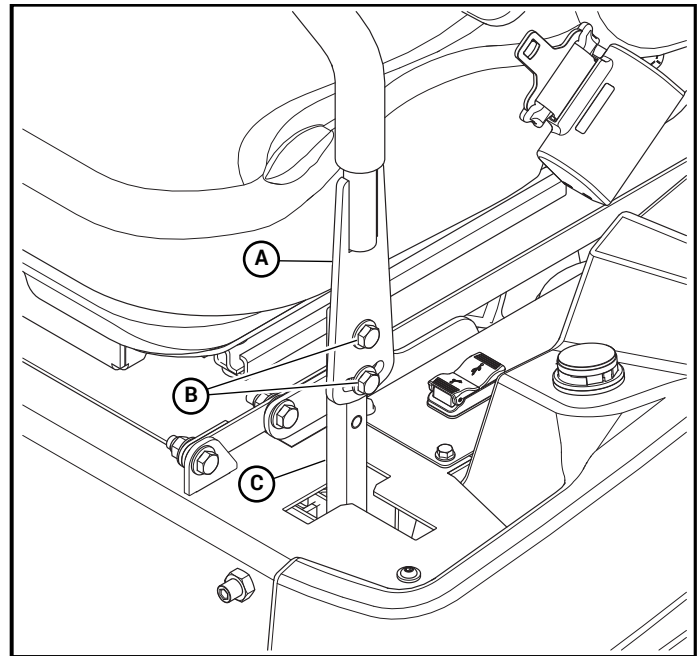

Figure 4-19
- A. To pivot the upper control levers forward or rearward, loosen the cap screws that attach the upper control lever to the lower lever. Then, pivot the upper control lever. Tighten the cap screws. Figure 4-19